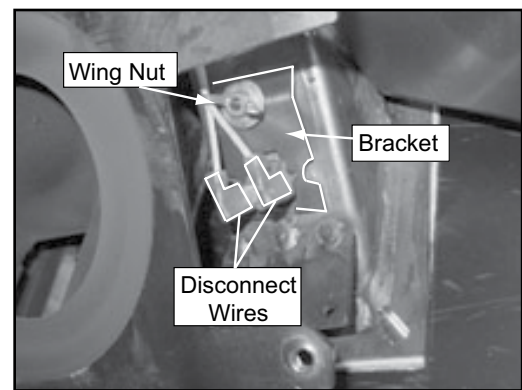

Figure 34.2
- i. Disconnect wires from snap disc #2. **Figure 34.2.**